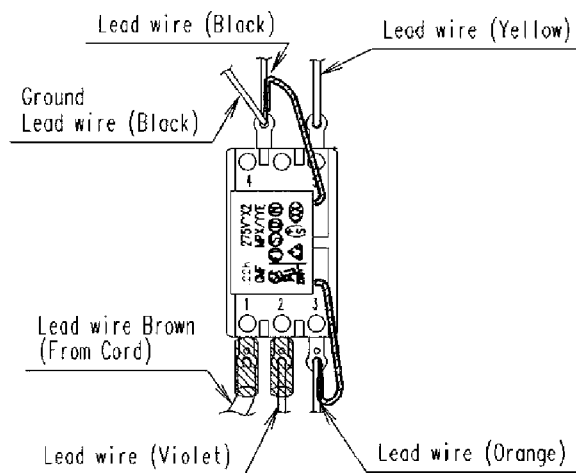

Figure 10
1. Install lead wire Black, Yellow, Violet, Orange, Ground lead wire and lead wire brown (from power cord) with a main switch and a capacitor as figure 10.